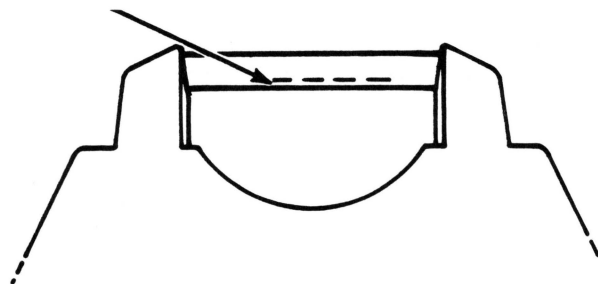

FIGURE 8
2. Remove the ribbon cartridge and find where the underscore struck on the ribbon. It should be about 1/16 inch from the bottom of the ribbon (see Figure 8). If it is higher or lower than that, the ribbon support plate needs adjustment. (For the purposes of this module, perform the adjustment even if it is not needed.)